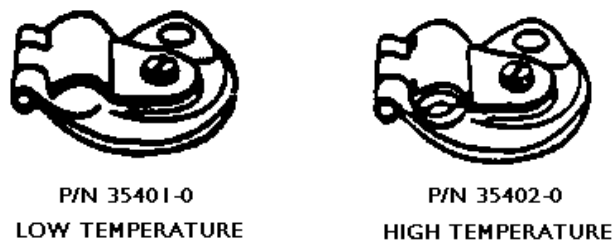

Figure 8. Mounting Clips
- (2) Mounting Clips, P/N 35401-0 and 35402-0, are used to secure sensing elements to the surface of the protected structure or equipment. They serve as support points and vibration dampers. These clips are secured permanently to the structure or directly to the protected equipment with a screw or rivet through the mounting hole provided in their base, see Figure 8. The sensing elements are then clamped into them and secured by means of a 1/4-turn twist-lock stud. The elements are thus easily removed when necessary.